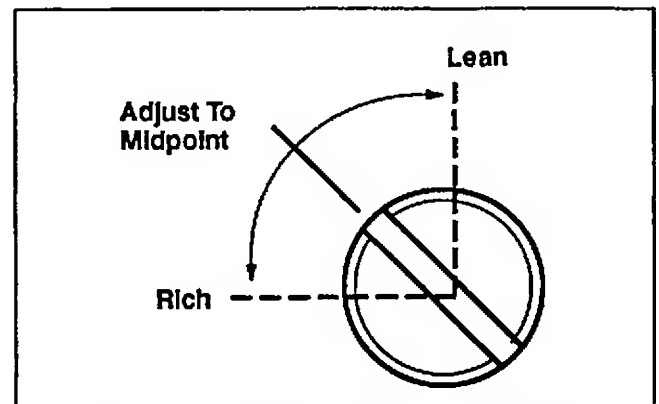

Figure 5-2. Optimum Low Idle Fuel Setting.
6. **Low Idle Fuel Setting:** Move throttle into "idle" or "slow" position then turn the low idle fuel needle out (counterclockwise) from the preliminary setting until the engine speed decreases (rich)—note position of the needle then turn it back in (clockwise) until it again increases then decreases (lean)—set the needle midway between the rich and lean settings. (See Figure 5-2.) Note: On constant speed applications, turn the low fuel adjusting needle out 1-1/4" turns from bottom and leave at this setting.